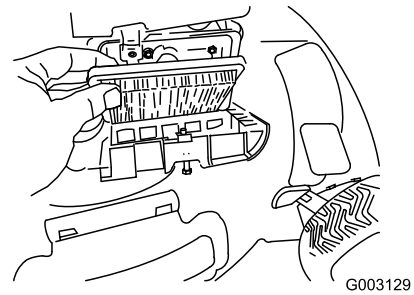

Figure 33
4. Install the cover (Figure 33).